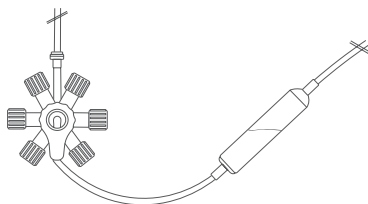

Fig 1. Priming of the drip chamber
3. When applicable close the vented cap on the spike (1).
4. Verify the RondelO handle (7) is in a Flushing position.
5. Close the Roller clamp (9) of the RondelO Primary IV-set.
8. Hold the Drip chamber (8) tilted upside down and position it at the same level as the RondelO, open the Roller clamp (9) of the IV-set and fill the Drip chamber as in (Fig. 1.)